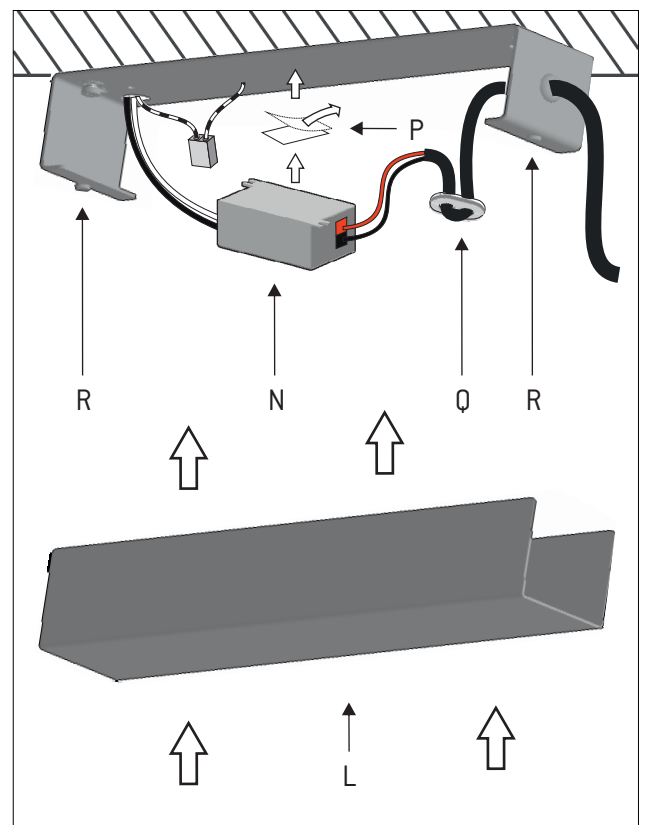

Figure 8
8 - Connect the driver (N) to the electrical cable from the ceiling and fix it to the mounting bracket with double faced tape (P). Pass the electrical cable of the lamp through the lateral hole of the mounting bracket. Adjust the cable to the desired length and fix it using the cable ties (Q). Cut the excess cable and make the electrical connections. Place back the canopy (L) and make sure that it is fixed with the mounting bracket through the magnets (R). Figure 8